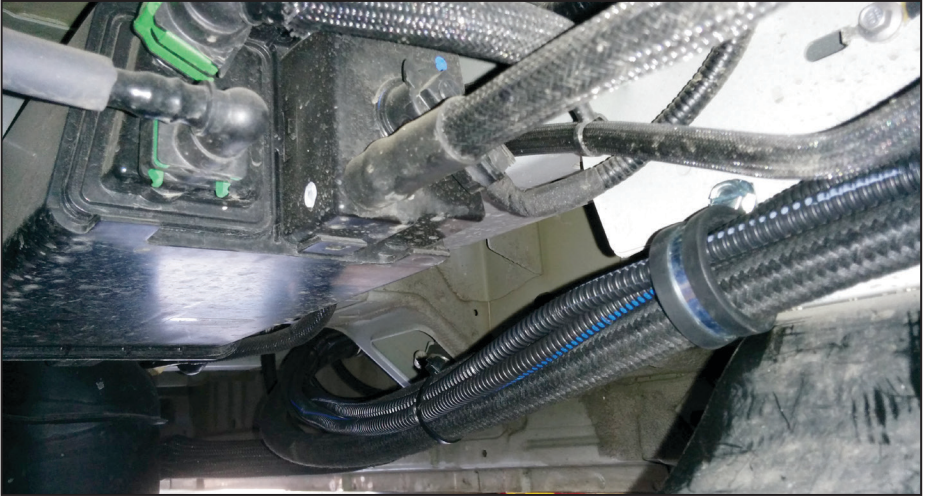
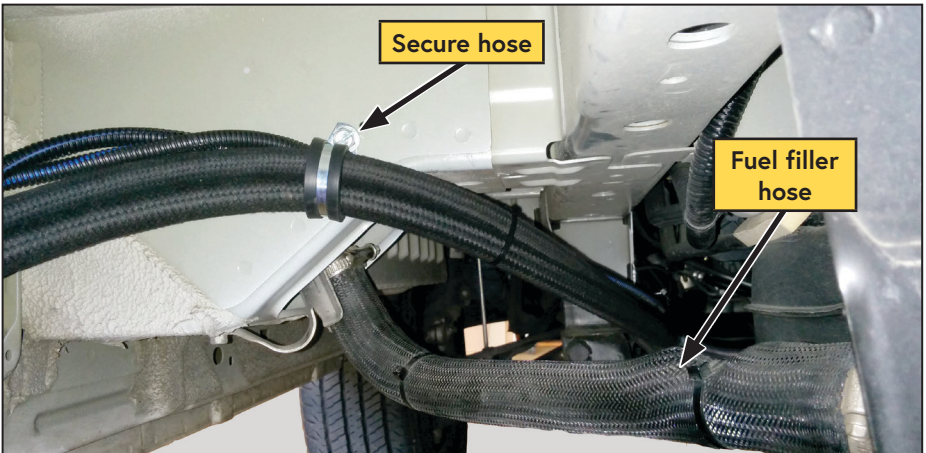

Figure 41 — Hose routing continued
Figure 42 — Hose routing above fuel filler hose
- Route the hoses above the fuel filler hose and toward the rear of the fuel filler housing (Figure 41, Figure 42).
- Secure the hose using the supplied P-clip and 5/16 in x 3/4 in sheet metal screw, in the location shown (Figure 42).